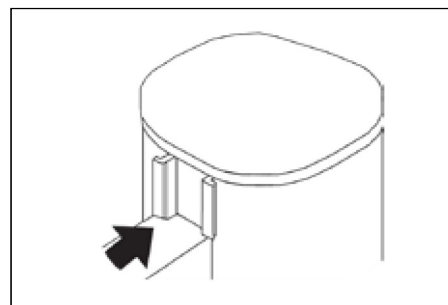

Figure 11
- C. For intermediate posts, take two short side cover strips and push into the reveals on either side of each post as shown on **Figure 11**.